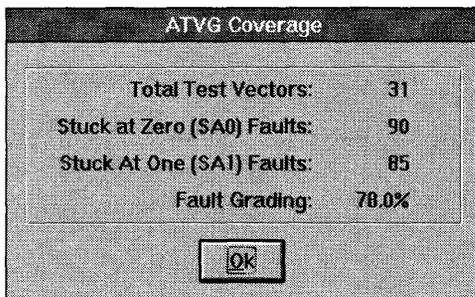

Figure 5-10 Typical ATVG coverage dialog box
*ATVG Coverage* reports on the design's test coverage (Figure 5-10). These statistics may be used as guidelines to improve the design in order to increase test coverage. Of particular interest is the Fault Grading statistic, which indicates the quality of test coverage produced by ATVG.